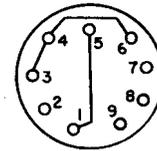

Fig. 3—377A Plug
2.03 377A: The 377A plug (Fig. 3) consists of a glass bulb fused to an E9-1 small button, 9 pin vacuum tube base. This plug is used as a shorting plug instead of the 427A vacuum tube, when the tube is not required.